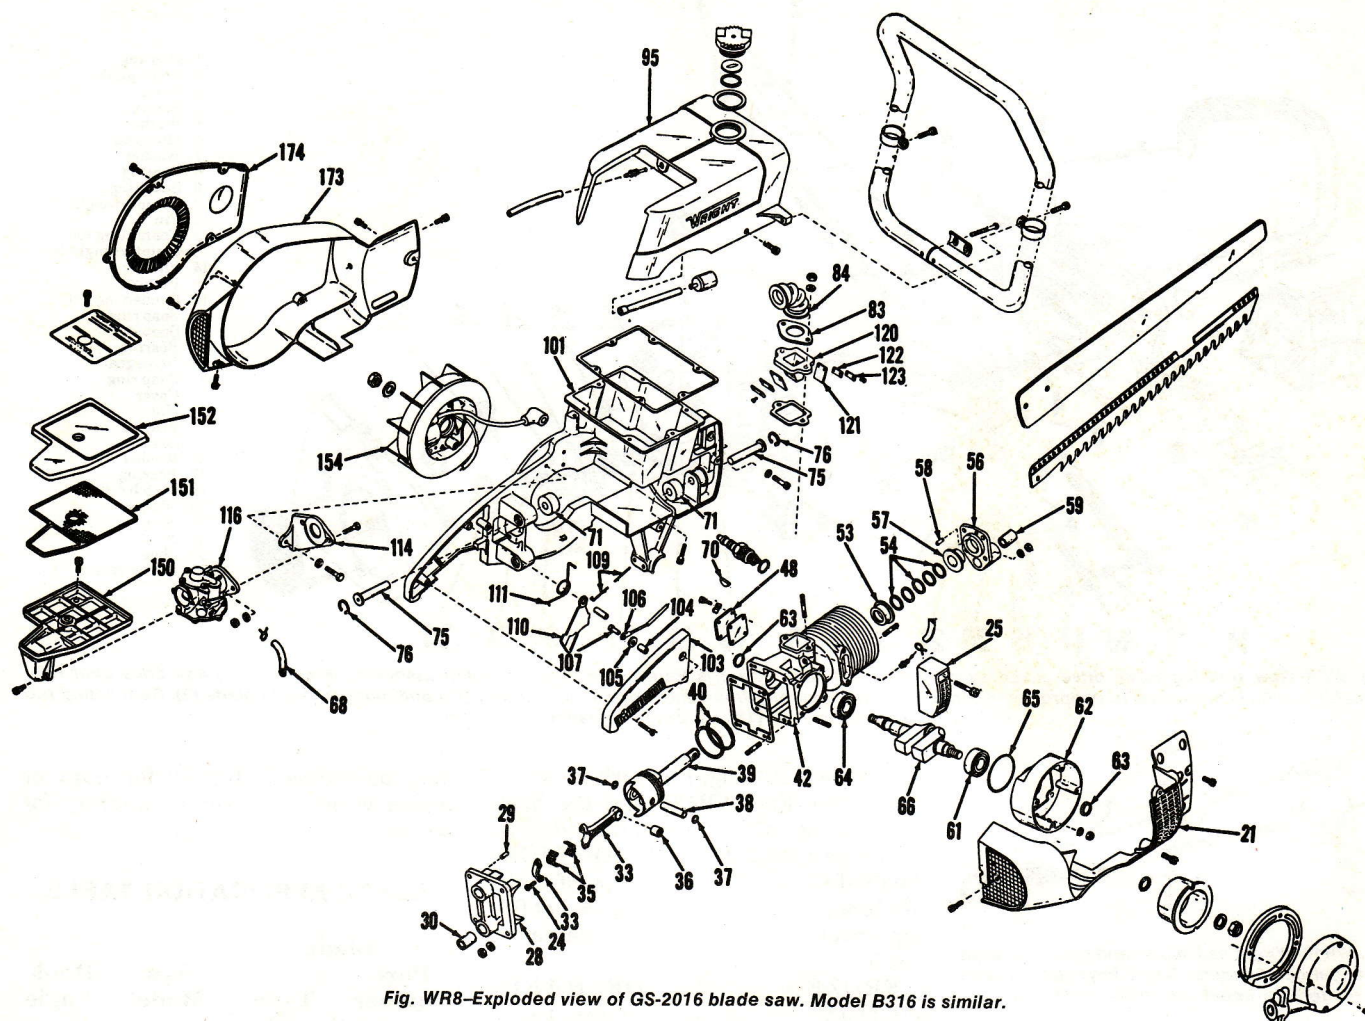

Fig. WR8—Exploded view of GS-2016 blade saw. Model B316 is similar.
On models GS-2016 and B316 refer to Fig. WR8. Three internal seal rings (54) and two external seal rings should be installed alternately. Tool (Wright part No. 644528) should be used to install front bushing (57).
On GS-2016 and B316 the crankcase and cylinder are one piece (42—Fig. WR8). "O" ring (65) should be renewed each time cover (62) is removed.